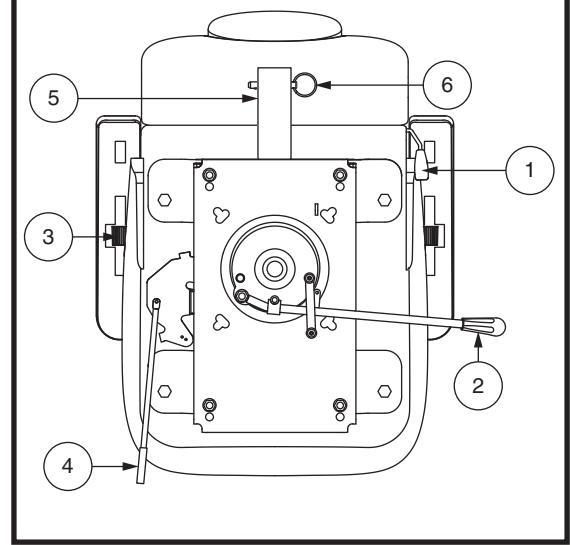

Figure 14. Seat Adjustments
To adjust your scooter's reclining seat, you can adjust the seatback angle with the seatback adjustment lever. See figure 14.
1. Pull upward on the seat rotation lever to disengage the seat. See **figure 14**.
Armrest angle of your scooter can be adjusted upward or downward by turning the adjustment dial. See **figure 14**.
1. Move the seat sliding lever located at the lower left side of the seat outward. See **figure 14**.
The rear-mounted accessory bracket allows you to attach a personal accessory such as a basket, walker holder, or oxygen tank to the back of your scooter. Utilize the detent pin to securely mount your item to the accessory bracket. See **figure 14**. See your authorized Provider for details.